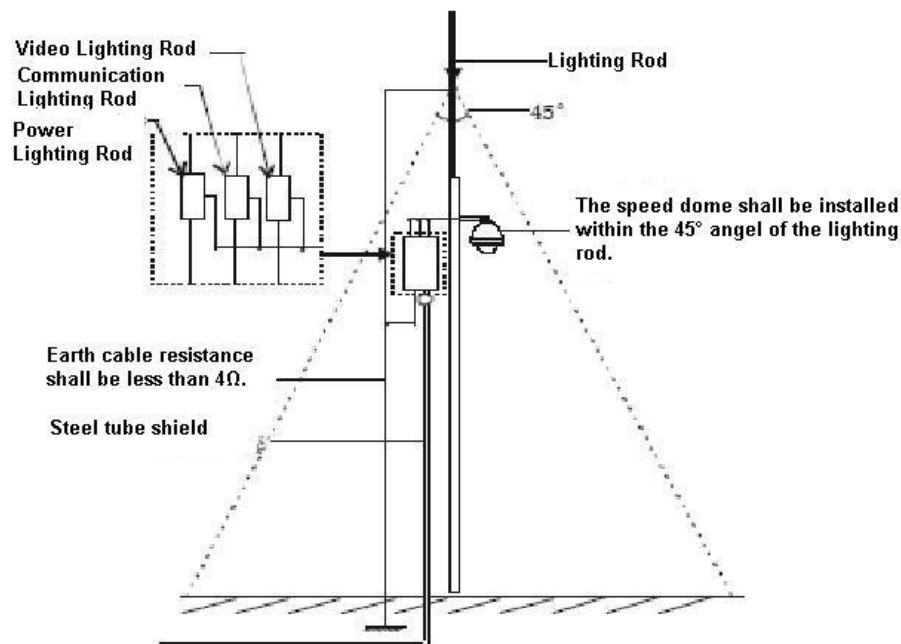

Figure 7-1
- System shall adopt equal-potential wiring. The earth device shall meet anti-jamming and at the same time conforms to your local electrical safety code. The earth device shall not short circuit to N (neutral) line of high voltage power grid or mixed with other wires. When connect the system to the earth alone, the earth resistance shall not be more than 4Ω and earth cable cross-sectional area shall below 25 mm^2 . See Figure 7-1.